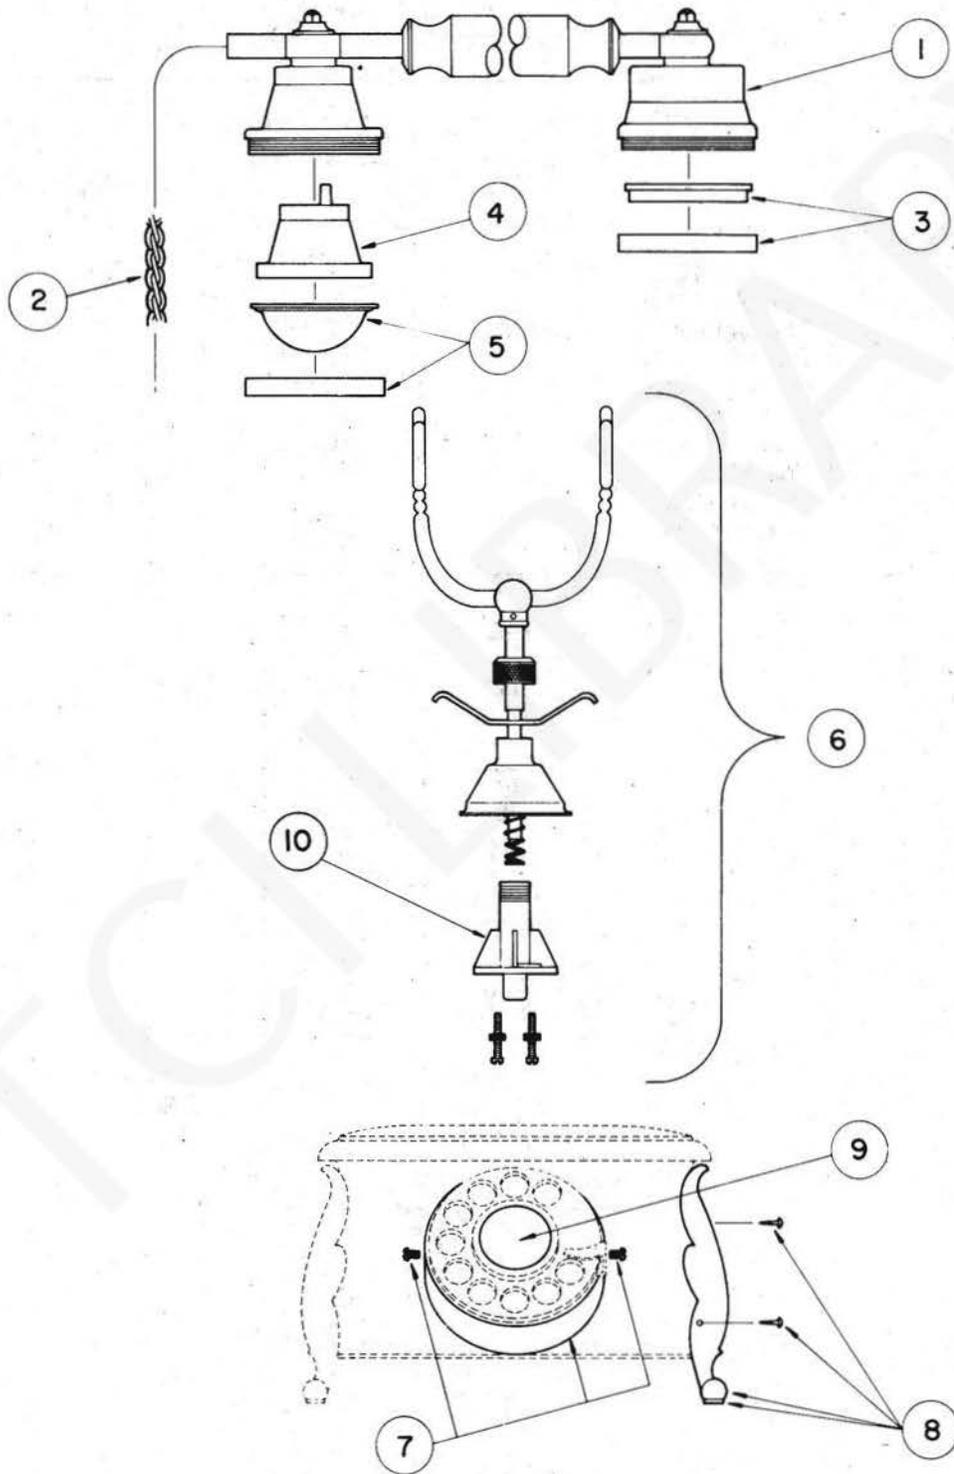

Fig. 8 — Exploded View of MD9150 Telephone Set (Renaissance)
**IDENTIFICATION OF PARTS (Fig. 8)**